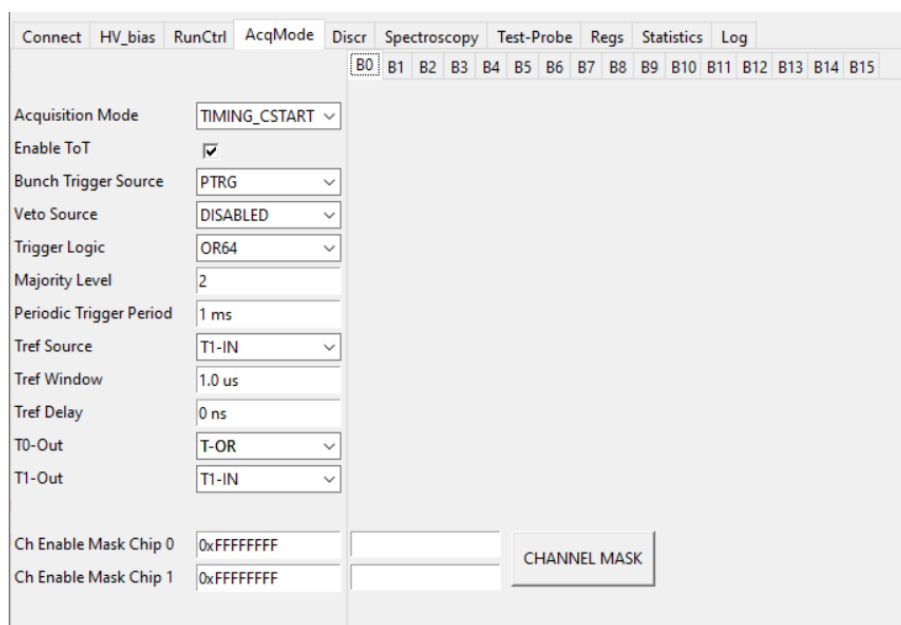

Fig. 10.27: The AcqMode tab with the settings chosen to test the board in Timing Mode.
3. Set the value for the "Tref Window" parameter in the AcqMode tab. This parameter defines the length of the gate whose start is defined by the T_{ref} signal (Common Start Gating) or whose stop is defined by the T_{ref} signal (Common Stop Gating). A value of 1 μ s was chosen for this example (see Fig. 10.27).